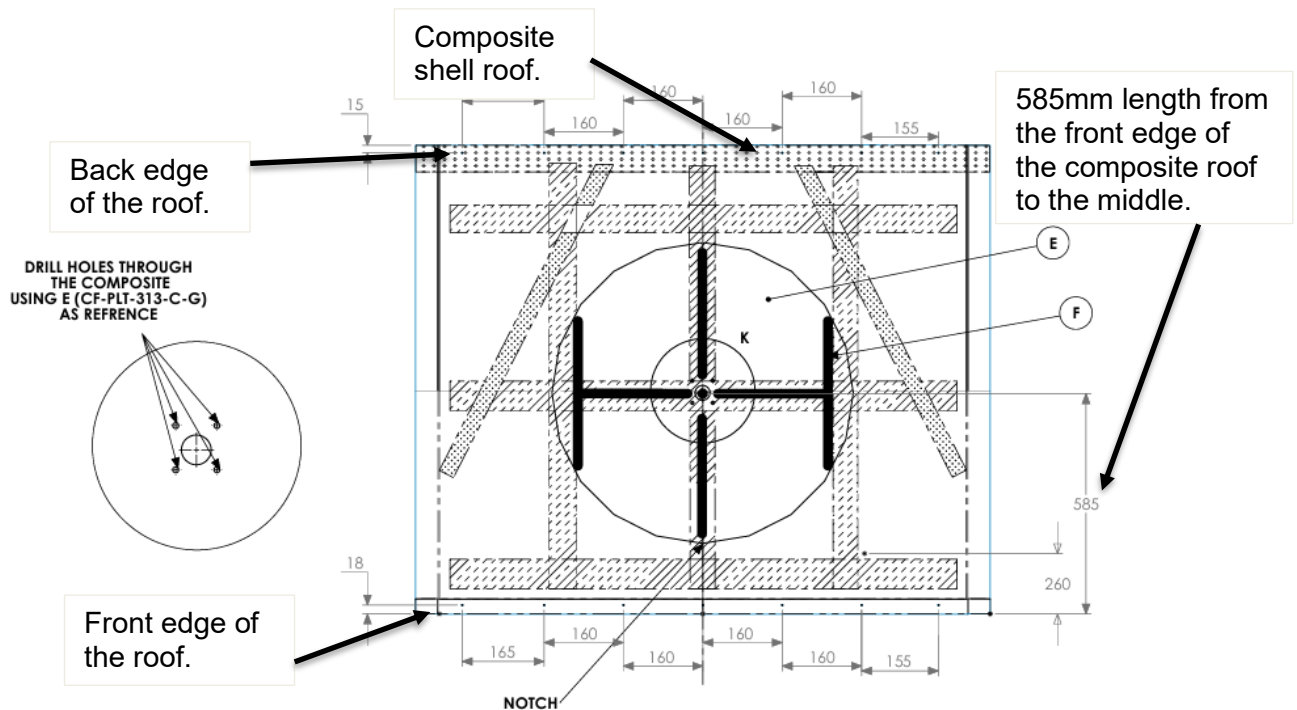

Figure 16: Drawing of the removable roof and the measurements on where to place the VHF ground plate.
Step 1: Measure 585 mm from the front edge of the removable roof panel (from the joggle on the removable roof) to the middle of the removable roof using a metal rule as shown in Figure 16.
- Step 2: Mark the position of the antenna mounting holes on the middle surface of the roof panel using the 585mm measurement shown in Figure 16.
- Step 4: Use the notch orientation shown in Figure 16 to determine the correct mounting position of the VHF plate for accurate drilling of the antenna holes.